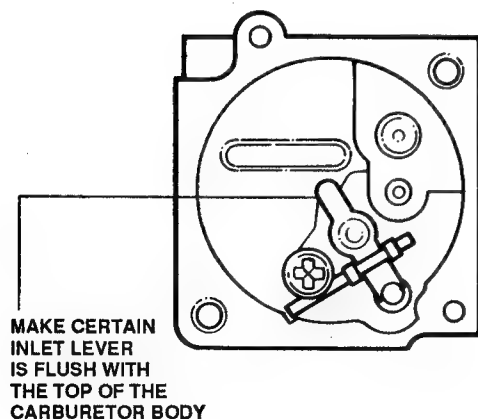

FIGURE 21
5. Set the metering lever so that the back of the lever is flush with the top of the carburetor body. If the lever is not flush, gently bend the lever until the desired setting is achieved. See Figure 21.